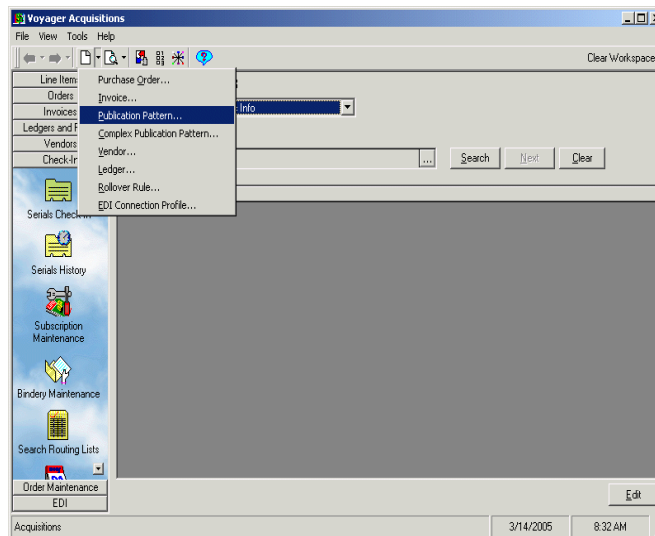

Figure 8-38. New Item button selected on the toolbar - list displayed
- Select **Check-In** from the **View** menu and then select **New Publication Pattern** from the cascading menu (see Figure 8-38).